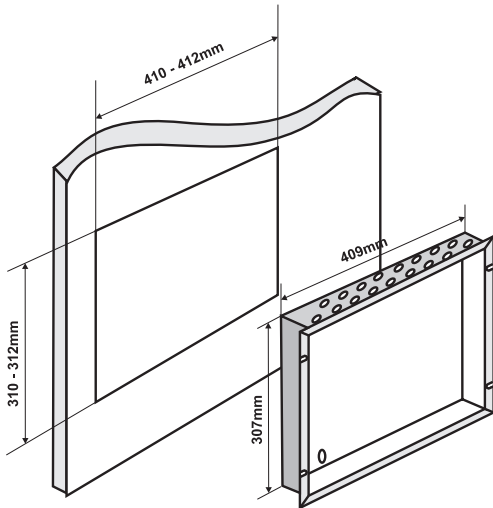

Figure 6. Dimensions of the metal box and the mounting hole.
- Use given on Figure 6 dimensions to outline and to cut the mounting hole in the drywall.